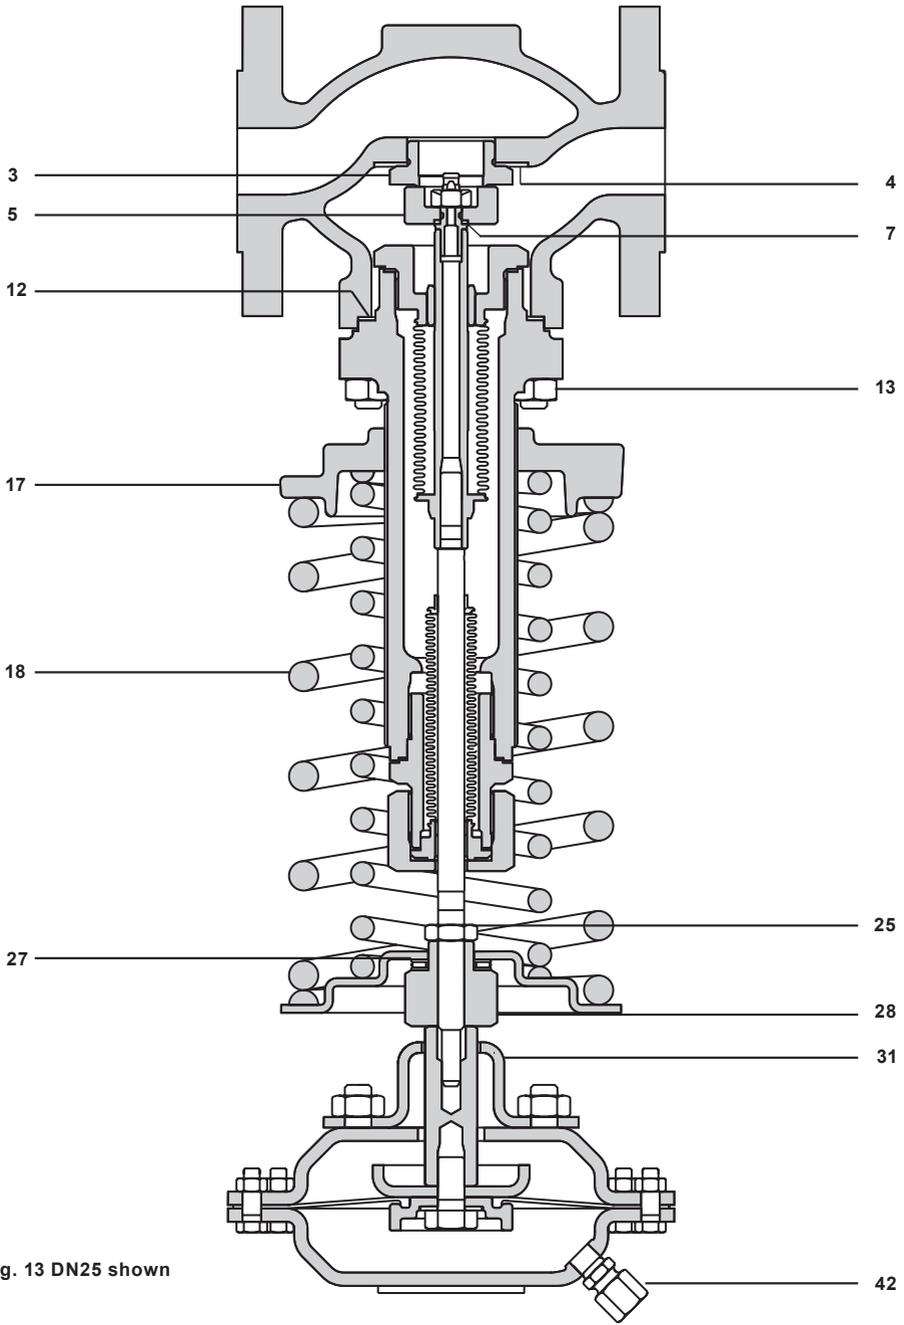

Fig. 13 DN25 shown
4.4.6 To renew valve head and seat (Figure 13):
- Rotate the spring adjuster (17) to reduce spring(s) (18) compression to zero.
- Inspect the valve head and if necessary renew the head (5) and head seal (7) as described in Section 4.4.4.
- Inspect the valve seat (3).
- If necessary renew the seat (3) and seat gasket (4) (DN15 to DN50 only) tightening to the recommended torque given in Section 4.2.
- Refit the bonnet/spring/actuator assembly using a new bonnet gasket (12). Tighten the bonnet nuts (13) to the recommended torque, given in Section 4.2.
4.4.7 To renew needle bearing assembly (Figure 13):
- Disconnect the downstream pressure signal line from the coupling (42) and remove the actuator from the valve.
- Unscrew the pillar nuts (16 not shown) and remove the actuator mounting plate (31).
- Whilst retaining the setting nut (28) unscrew the lock-nut (25).
- Remove the setting nut (28) and the needle bearing assembly (27).